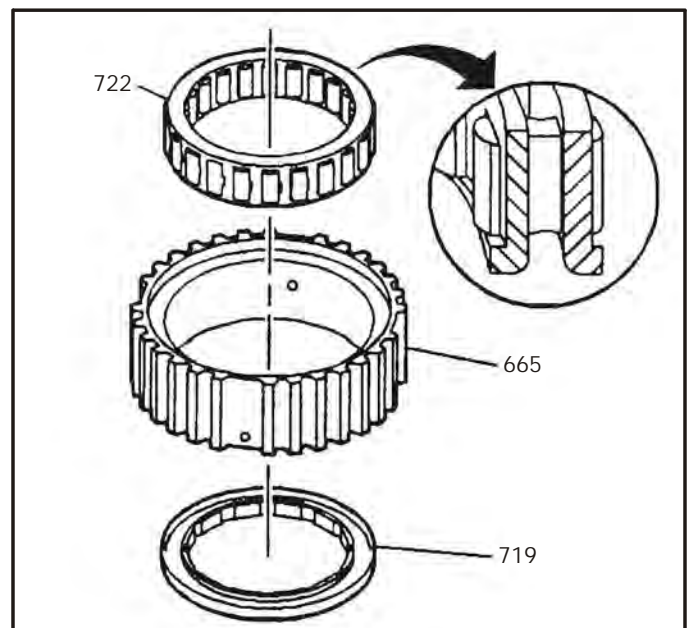

Figure 97
3. Place the input clutch sprag outer race on a flat work surface with the machined step facing up, as shown in Figure 97.
4. Install one of the end bearings (719) into the outer race with the step facing up, as shown in Figure 97.
5. Insert the input clutch sprag assembly (722) in the outer race, as shown in Figure 97.
Note: Position the input sprag so that the lip is facing **down**, as shown in Figure 97.